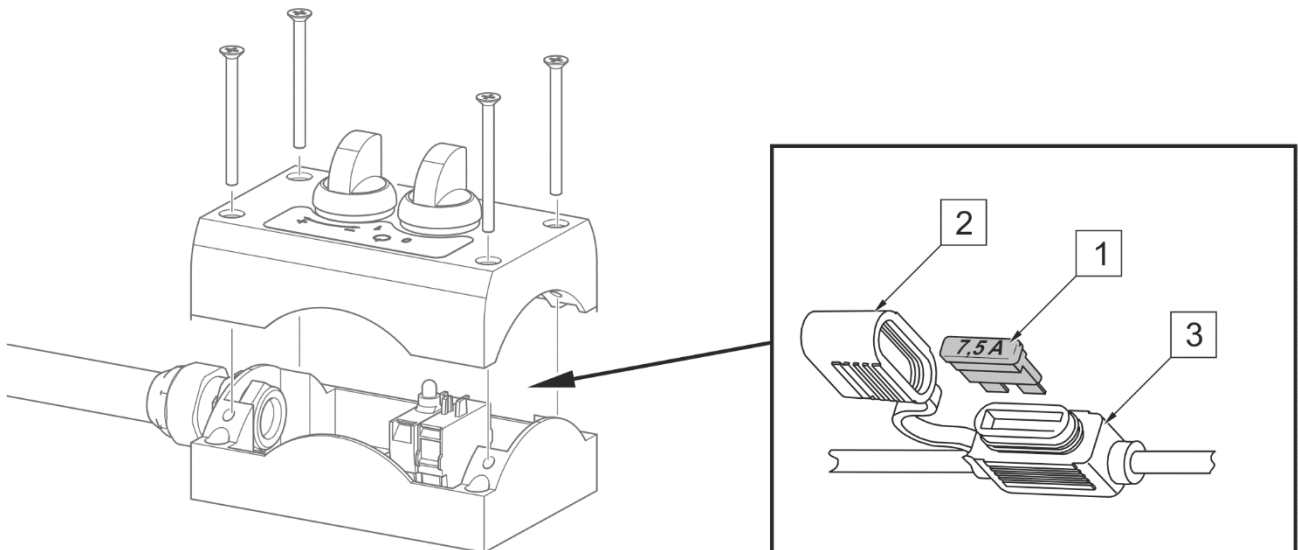

FIGURE 5.16 Fuse in control panel
(1) - UNIVAL 7.5 A fuse ; (2) - cover; (2) - housing
Electrical control system of the sweeper is equipped with UNIVAL 7.5A fuse (1) located inside the control panel (FIGURE 5.16). Damaged fuse should be replaced with a new one.